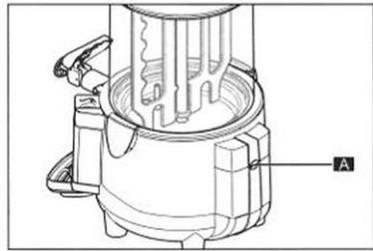

Fig. 2
4. Use an appropriate tool to undo the safety screw (A) (Fig. 2).